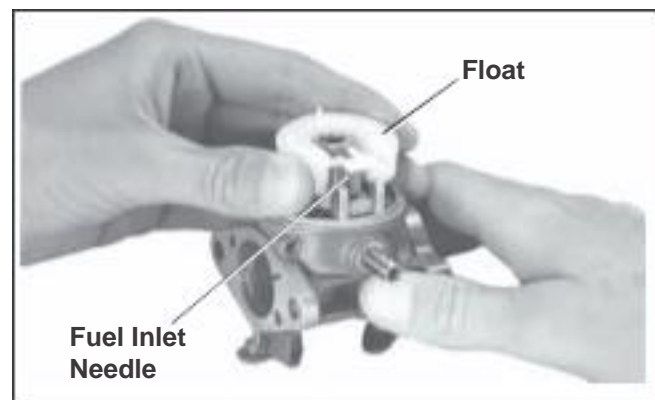

Figure 5-14. Installing Float and Fuel Inlet Needle.
3. Attach the fuel inlet needle to the float. Lower the float/needle into the carburetor body. See Figure 5-14.